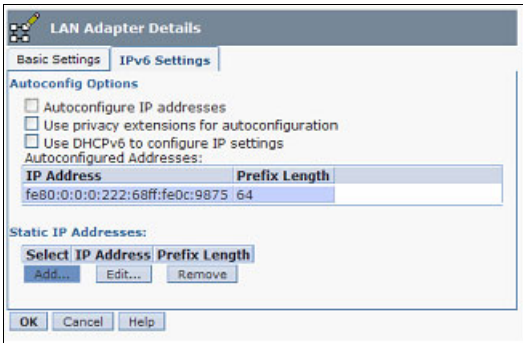

Figure 8-11 Web UI IPv6 settings window
6. Click **Add** to add a static IP address to this adapter. Figure 8-11 shows the LAN Adapter Details window where you can configure the IPv6 values.